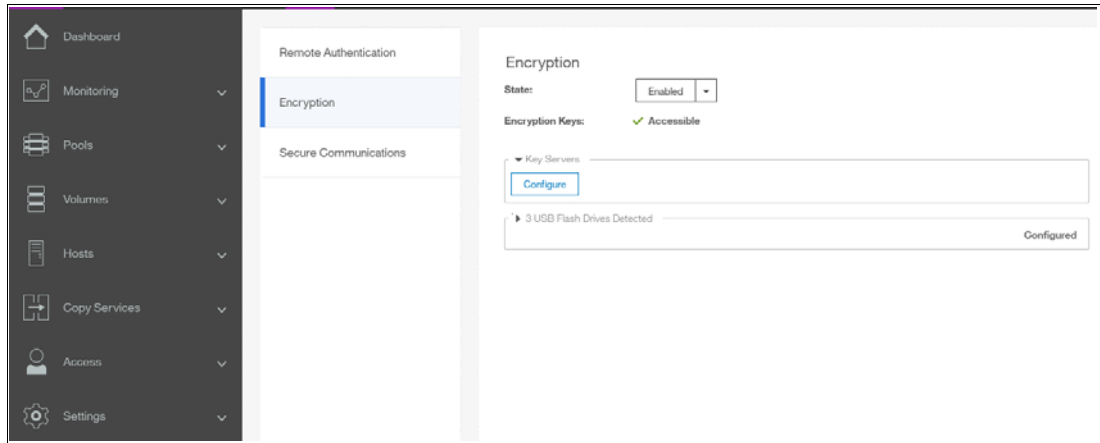

Figure 13-52 Enable SKLM server as a second provider
1. Go to **Settings** → **Security** → **Encryption**, expand the *Key Servers* section and click on **Enable**, as shown in Figure 13-52 on page 740. Note that to enable key server as a